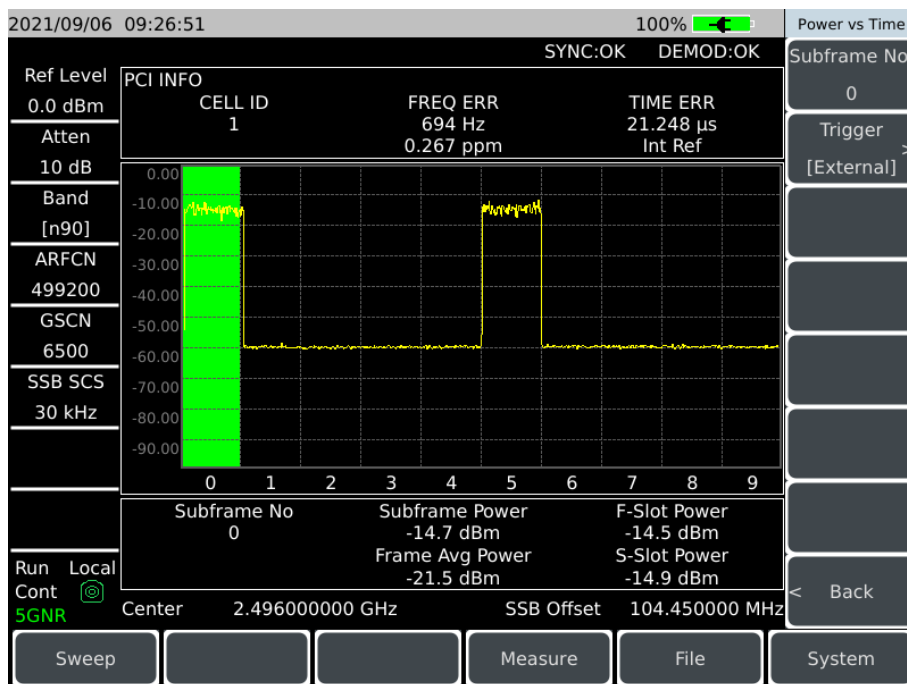

Figure 11-8 Power vs time display interface
e) Press **[Measure]** →[Power vs Time]→[Subframe No. 0] to select the subframe ID, which is 0 by default, or select subframe 1 as shown in Figure 11-8.